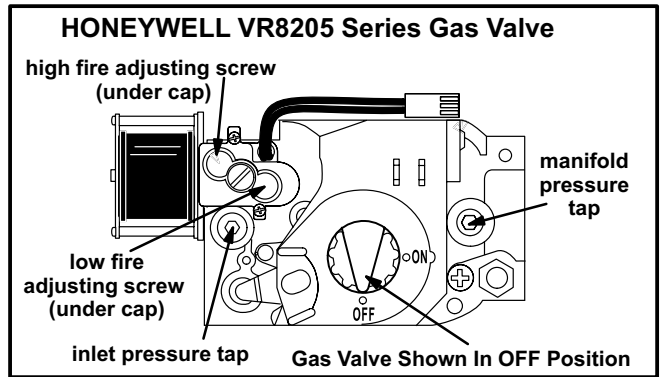

Figure 3
Operating the Gas Valve (Figure 3)
- 6 - Turn the gas valve knob to **OFF**. See figure 3.